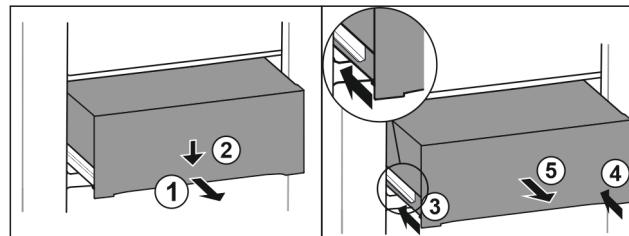

Fig. 120
- ▶ Pull out drawer half-way. Fig. 120 (1)
- ▶ Push the drawer down at the front. Fig. 120 (2)
- ▶ Push the left rail in by about 2 cm. Fig. 120 (3)
- ▶ Push the right rail in by about 2 cm. Fig. 120 (4)
- ▶ Remove drawer to the front. Fig. 120 (5)